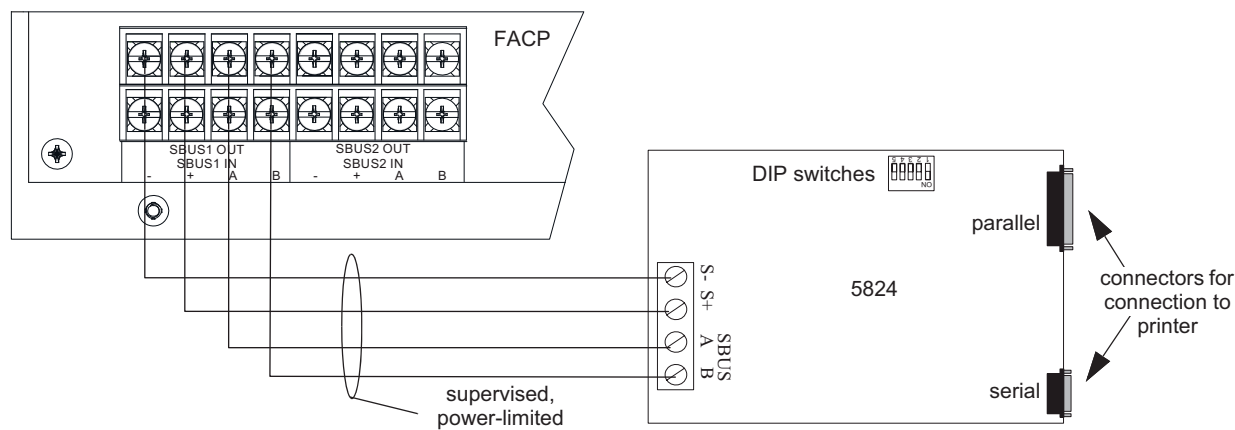

Figure 4.34 5824 Connection to the Panel
2. Connect the 5824 to the FACP as shown in Figure 4.34.